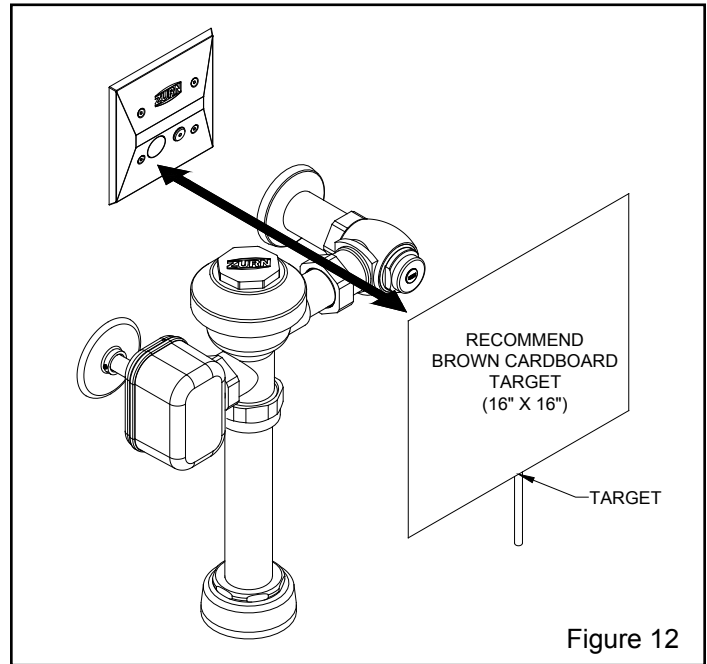

Figure 12
1. Obtain a target. SEE FIGURE 12.